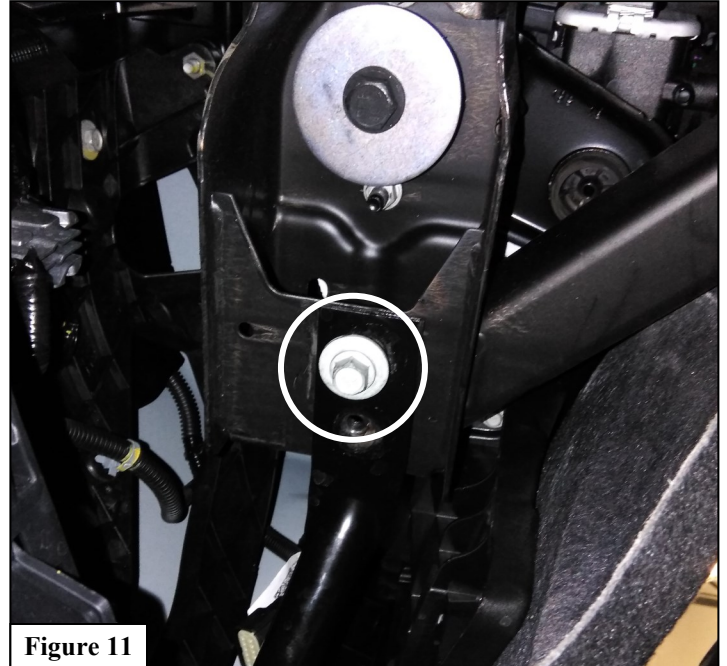

Figure 11
16. Also remove the bolts on the bottom of the frame securing the bumper supports to the vehicle. See **Figure 11** for reference.